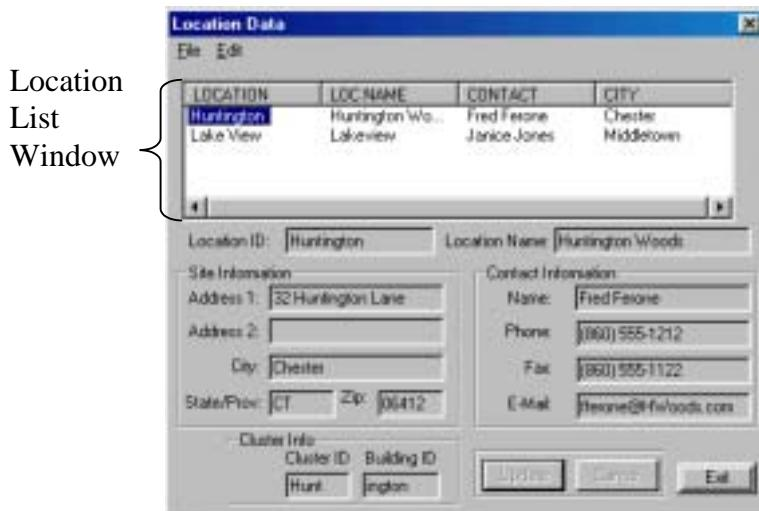

Figure 3.4 Completed Location Setup
6. When completed, the Location List Window in the Location Data dialog box should include the two properties (Figure 3.4).